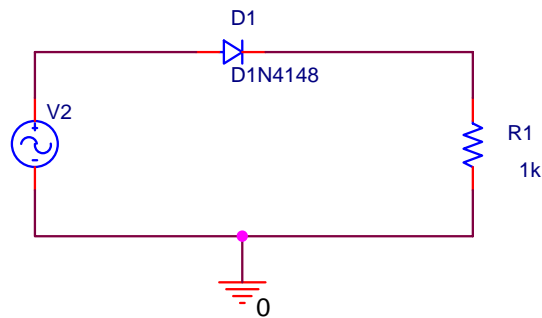

Figure B-7
- Assemble the rectifier circuit *without* the capacitor as shown in figure B-7.